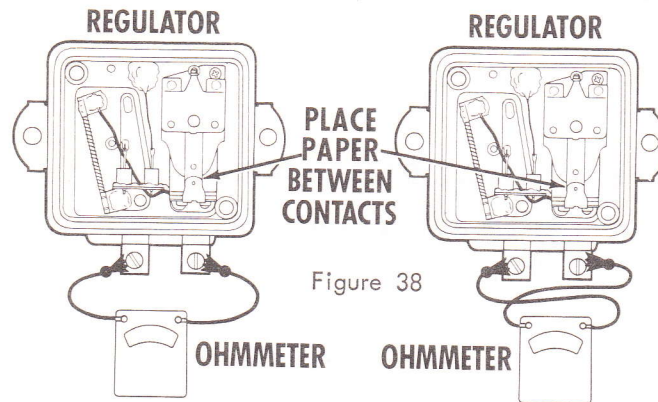

Figure 38
1. To check the field discharge diode, place a small piece of clean white paper between the voltage contacts to insulate them. See Fig. 38.
2. Connect small leads from analyzer to the "F" and "BAT" (Fig. 38) terminals. (Note the readings).
3. Reverse the lead connections to the "F" and "BAT" (Fig. 38) terminals. (Note the readings).